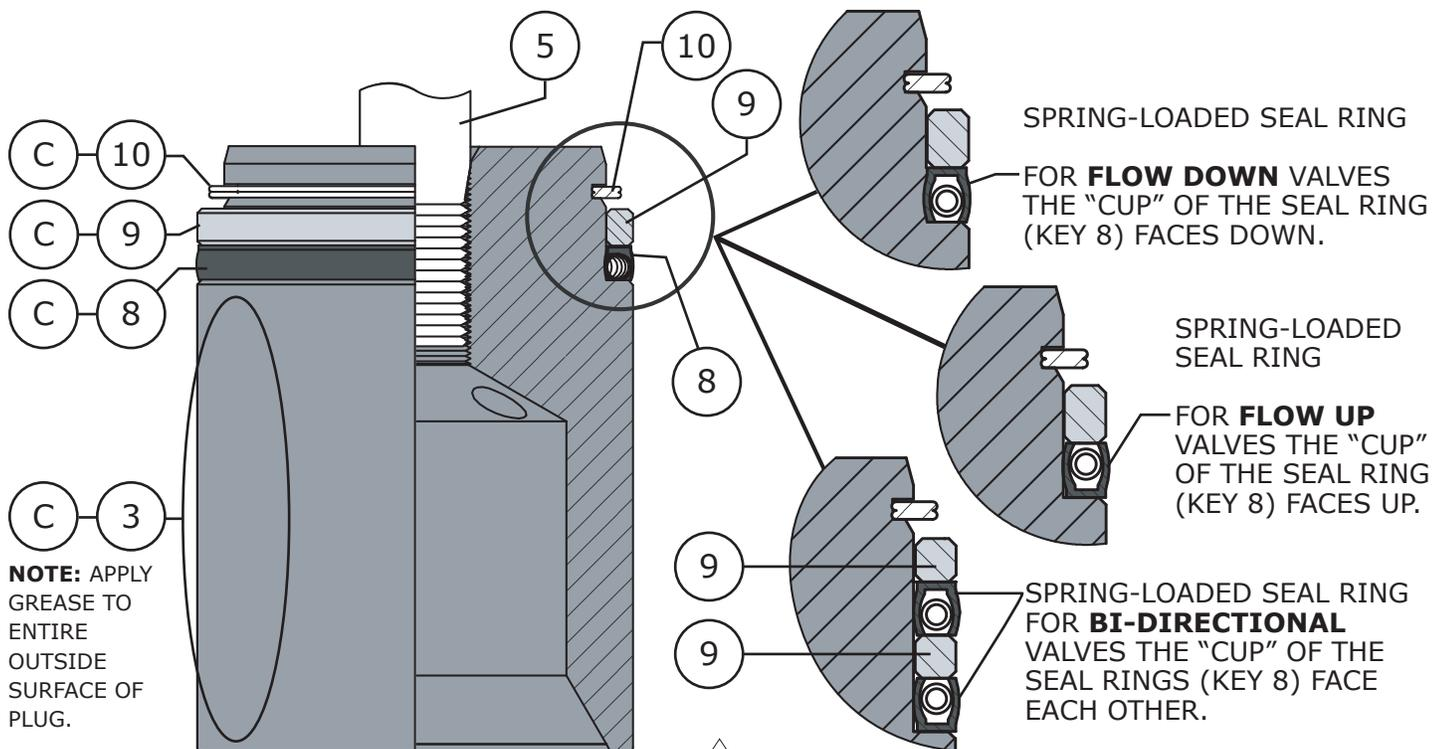

Figure 20 Three-Piece Plug Seal Assembly (Model 350 Only)
- 2 Install the seal ring (Key 8) onto the valve plug (Key 3), refer to Figure 20 for proper seal ring orientation. **NOTE:** 8 inch valves are technically one-piece plug seals, 8 inch valve assemblies use a seal ring only and do not make use of a backup ring (Key 9) or retaining ring (Key 10).